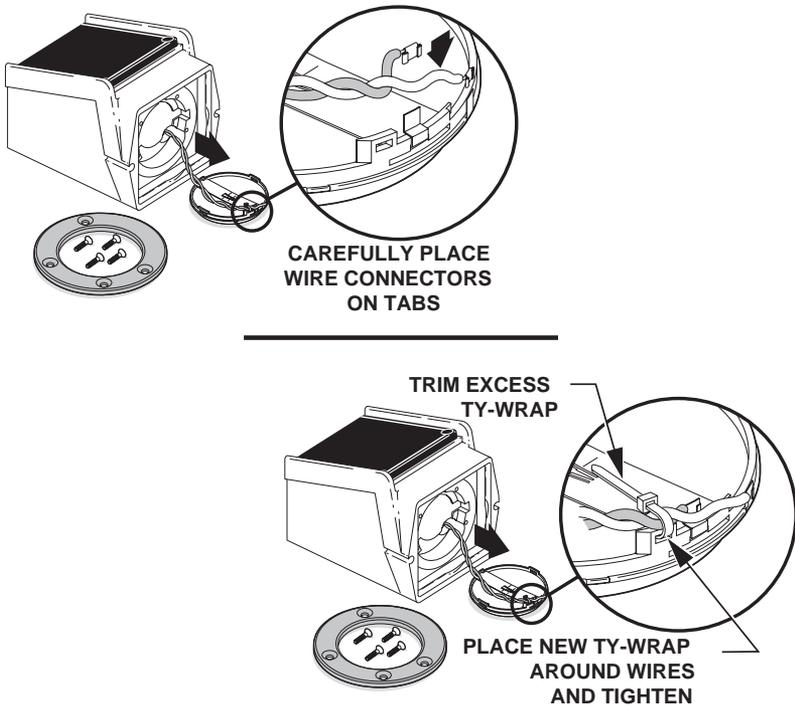

Figure 8-4. Replace Transducer, Connectors, and Ty-Wrap
4. Place the wire connectors of the new transducer firmly on their tabs; the gray wire connector is placed on the elevated tab. Place the Ty-Wrap in the slot next to the elevated (gray wire) tab, tighten and trim. **DO NOT** pinch the wires (Figure 8-4 on page 8-6).